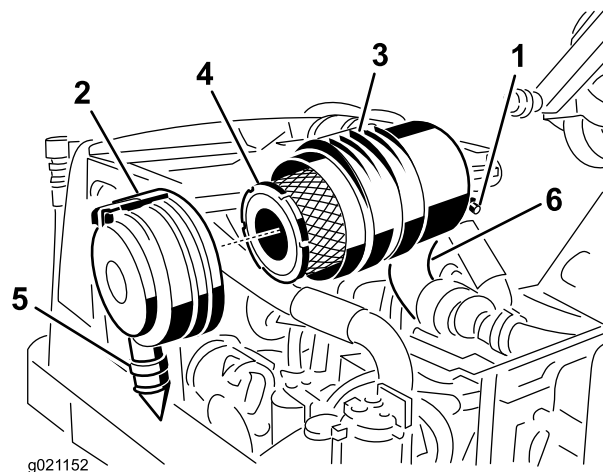
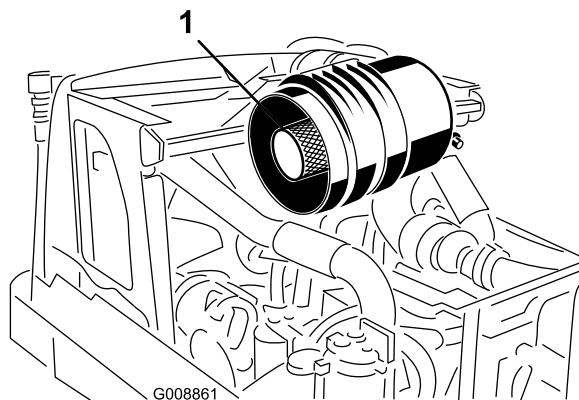

Figure 59
Figure 60
1. Pull the latch outward and rotate the air cleaner cover counterclockwise (Figure 59).
2. Remove the primary filter (Figure 59). Cleaning of the used element is not recommended due to the possibility of damage to the filter media. Inspect the new filter for shipping damage, checking the sealing end of the filter and the body. Do not use a damaged element. **Do not** remove the safety filter (Figure 60).
Important: Never attempt to clean the safety filter (Figure 60). Replace the safety filter with a new one after every three primary filter services.
3. Replace the primary filter (Figure 59).
6. Install the cover orienting the rubber outlet valve (Figure 59) in a downward position - between approximately 5:00 to 7:00 when viewed from the end. Secure the latch.